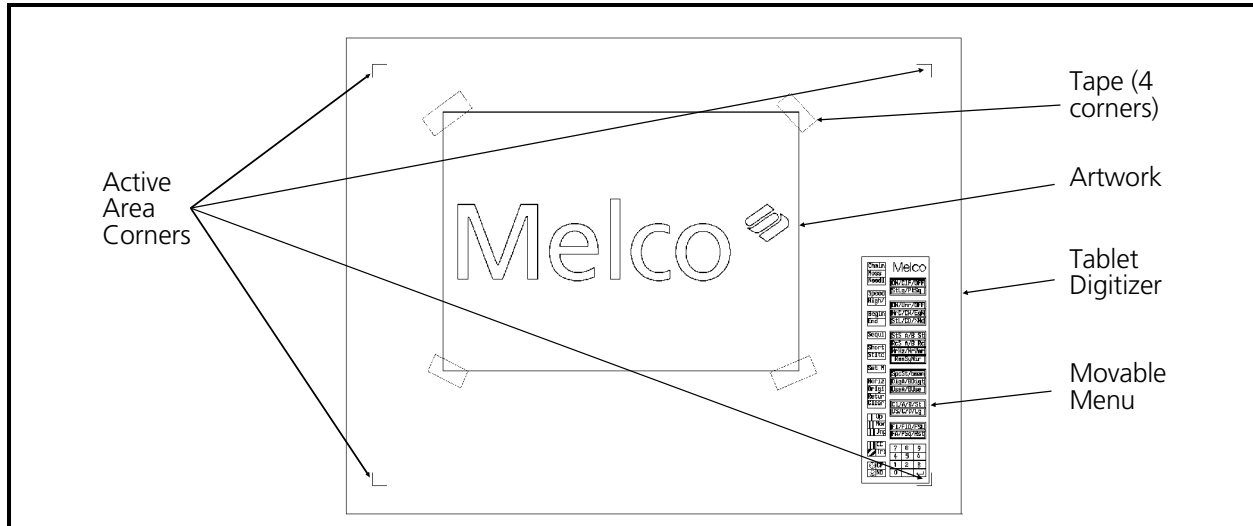

Figure 2-2
A common position for placing the movable menu is in the lower right corner of the active area as shown in Figure 2-2.
1. To perform the first practice digitizing session in the next chapter, locate the "Melco" artwork in the back of the manual and place it on the "active area" of the digitizer tablet (see Figure 2-2).